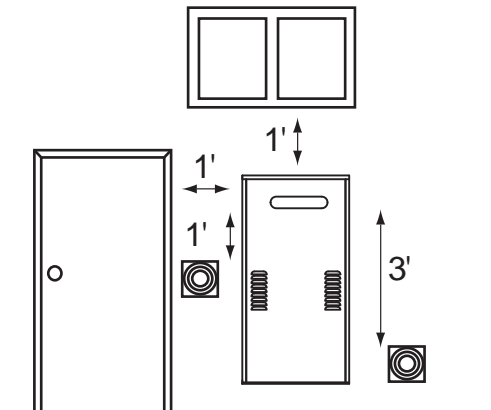

Figure 1: Discharge Vent Clearances.
- The recess box should be installed so the discharge vent maintains the minimum allowable clearances as required by the local authority. Where no local requirement exists, maintain the following minimum suggested clearances from building openings as shown in Figure 1: